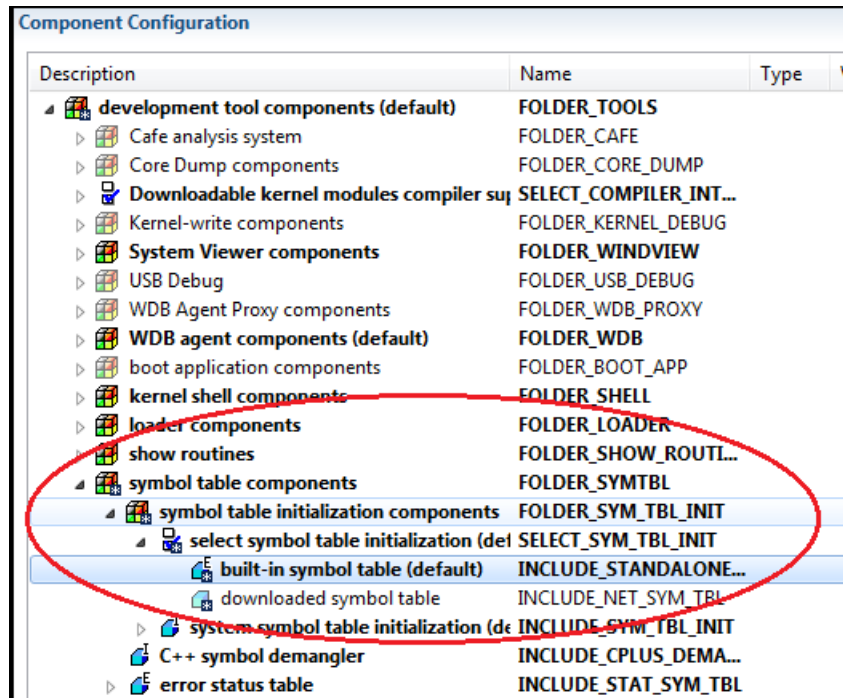

Figure 7: Component Configuration
- Open the Kernel configuration. Change the configuration to include the symbol table in the Kernel image (Figure 7, page 10).